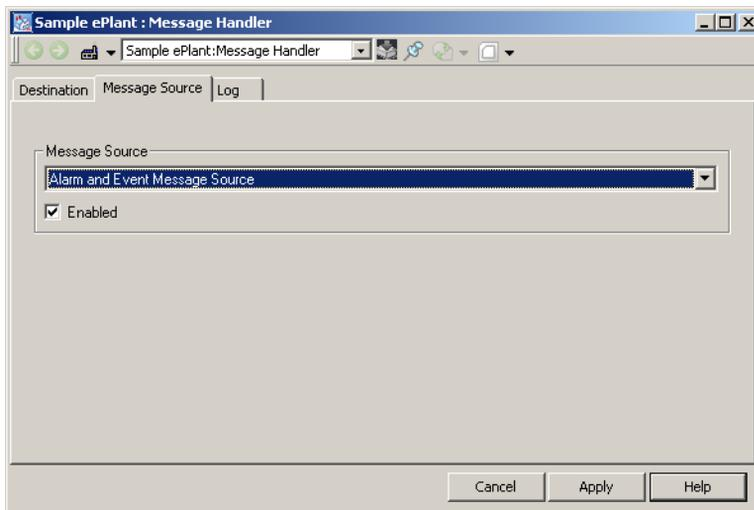

Figure 120. Message Handler - Message Source Tab
5. Select the **Message Source** tab and click the down arrow in the Message Source field. Select the desired Alarm and Event Message Source from the drop-down list box. This produces a view similar to the one shown in Figure 120. The **Message Source** tab allows for selection of the Alarm and